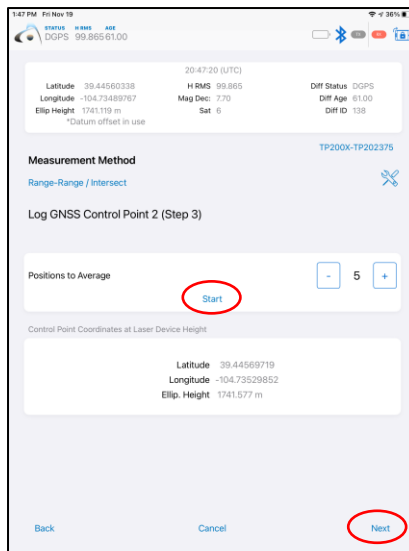

Figure 13A
- 13A. **Step #3:** Move to the 2nd control point, tap **Start** (Figure 13A) and when the GPS data is recorded, tap **Next**